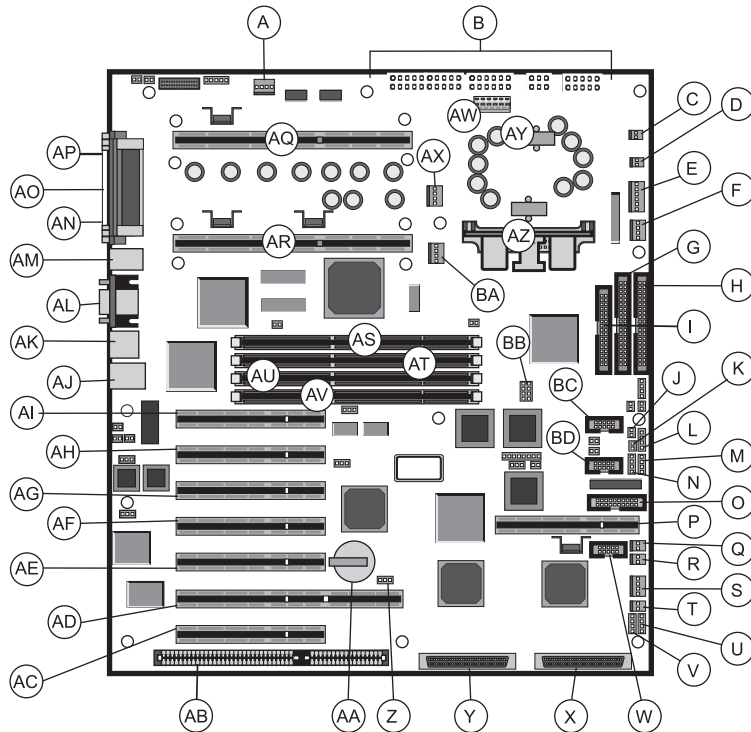

Figure 7: System Board Components
- Carefully thread the ribbon cables through the openings in the chassis and connect them to the appropriate connectors. See Figure 7 on page 12 for the locations of the connector on the system board and see the RAID Cage Configuration Guide for the location of the connector on the RAID bay backplane.
The system board functions as the main interface between the processor, memory, and peripherals. See the table below and on the following page for the key to Figure 7.